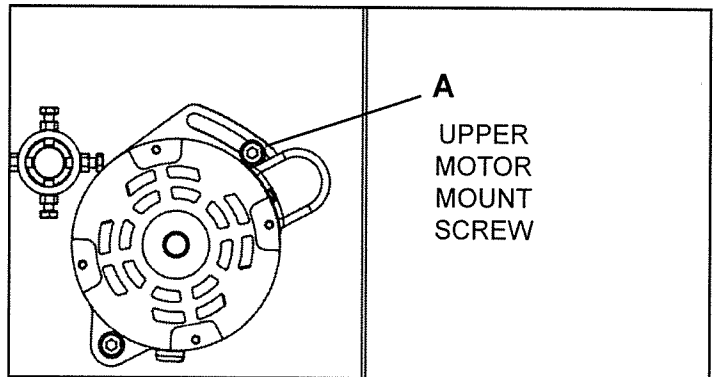

FIGURE 22
1. Loosen the top motor mount Screw (#29A) and pivot the motor to release tension on the drive belt. FIG. 22, A.
2. Remove the tension from the drive belt by loosening the top Motor Mount Screw (#29A) and pivoting the motor. See FIG. 22. Take the old belt off of the two pulleys.